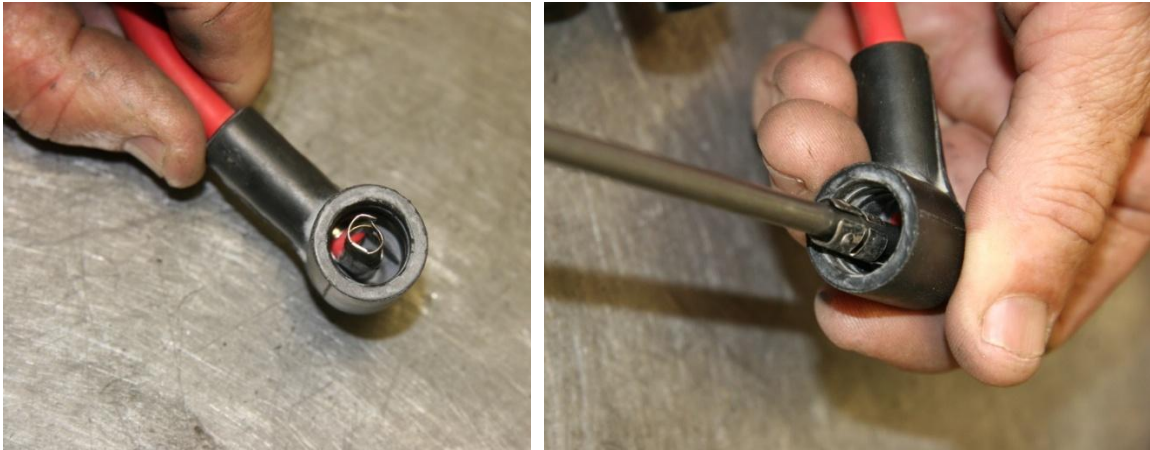

Figure 107 – Adjusting High Tension Lead Caps
- Check the fit of the high-tension lead caps onto the distributor and spark plugs. Visually check the metal contacts inside the caps. If the fit is loose or if the contact is visibly damaged as shown in Figure 107 then a screwdriver or similar must be used to re-shape the contact (it should be round) and to re-size it for a better fit – for a spark plug the diameter of the contact needs to be reduced to tighten while for a distributor cap it needs to be expanded. Each cap should fit with a clear "click" as it connects to the distributor cap or spark plug.